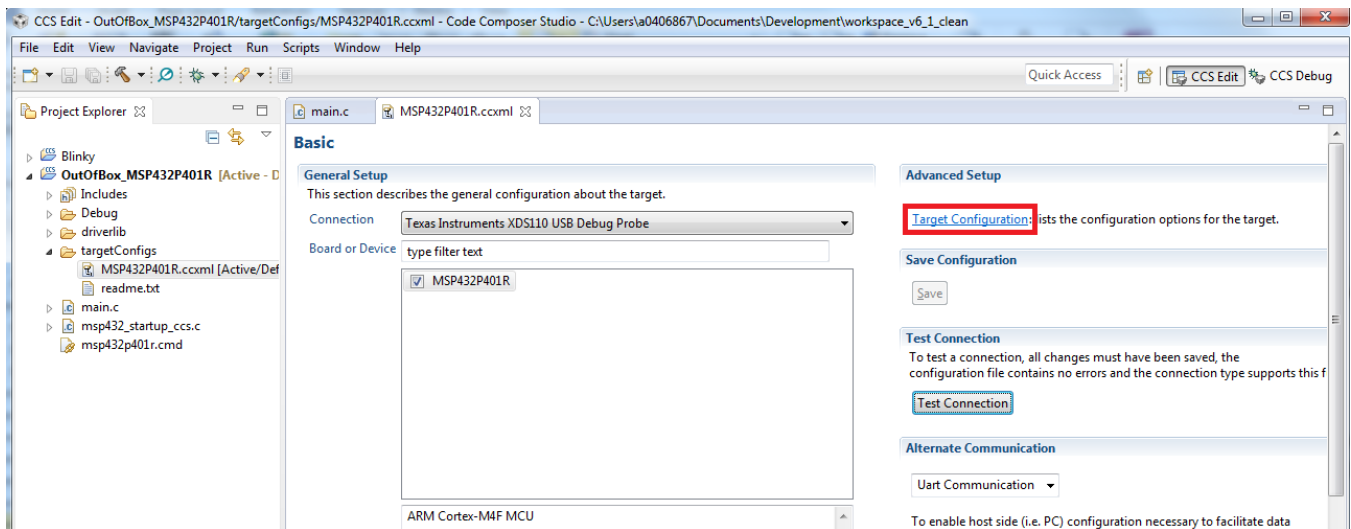

Figure 12. Target Configuration
1. Expand the project in Project Explorer and open the projects *.ccxml file in the targetConfigs folder. Select the correct debug probe (see Figure 12).